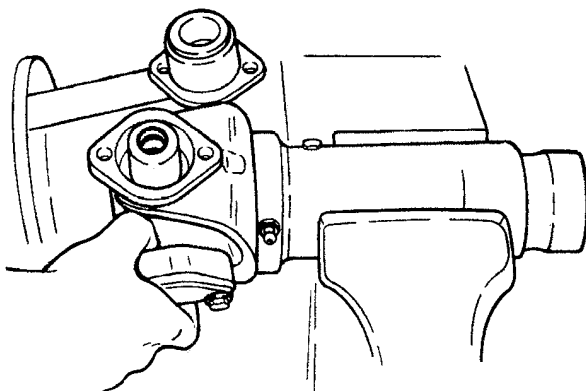

Figure 23 Position Bearing Cap Over Journal
5. Lubricate the outer diameter of the bearing caps with anti-seize compound and position bearing cap over journal (Figure 23). The cap must be square and aligned with the cross hole in the yoke so the cap will not bind. If the bearing cap should bind in the hole, tap the cap with a ball peen hammer directly in center of bearing plate.